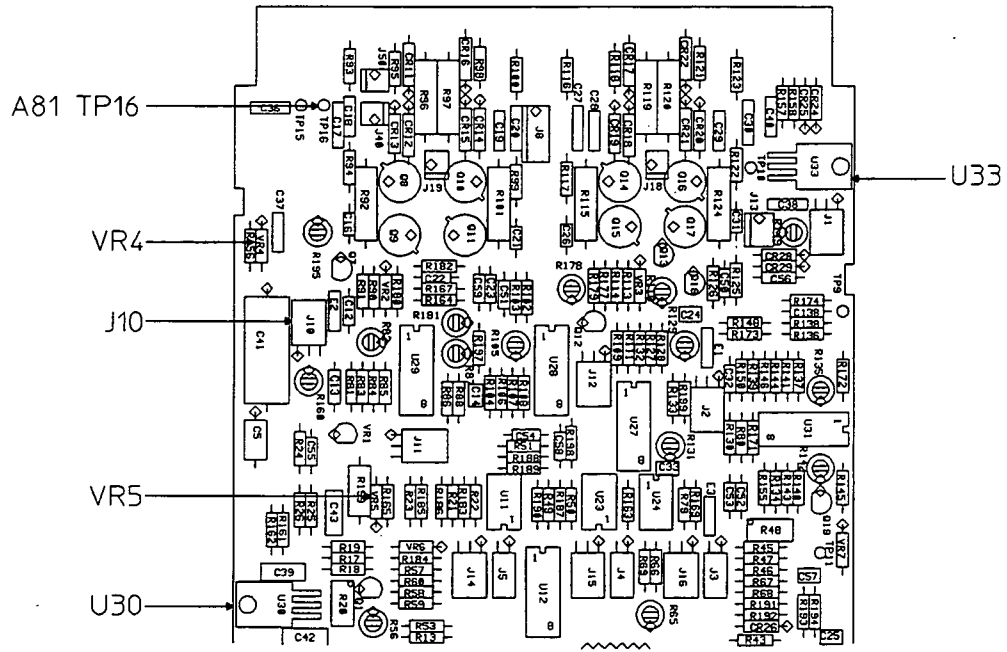

Figure 5-11. A81 Adjustment Locations for Low Voltage Power Supply
- c. Monitor internally regulated power supplies as indicated in table 5-7. Refer to figure 5-11.